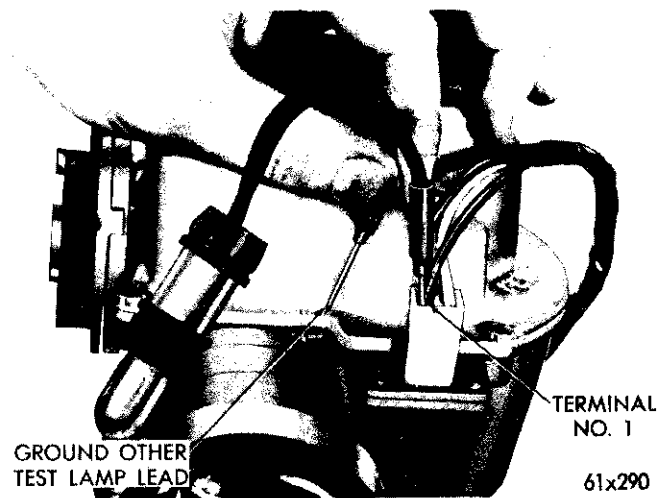

Fig. 17—Electrical Test (Terminal #1)
(2) Terminal #1—Ground one end of the test lamp lead and test terminal #1 (Fig. 17). If the lamp lights, the circuit is normal. If the lamp fails to light, the fuse is blown or wiring harness is open or grounded.